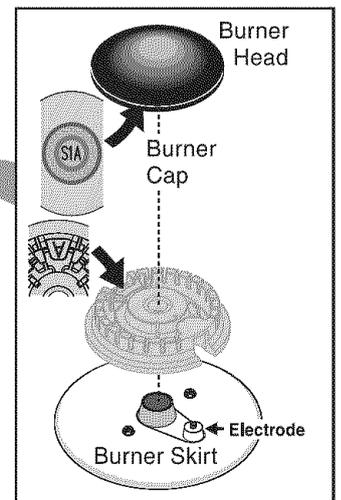

Fig. 2
- Match the letter stamped on the cooktop (Bridge Skirt) with the Burner Heads and Burner Caps (See Figs. 1 & 2). Each of the Burner Heads **MUST** have a Burner Cap installed to insure proper ignition and gas flame size. Note: The Burner Electrodes must be located properly in slots of each Burner Head (See Fig. 2).